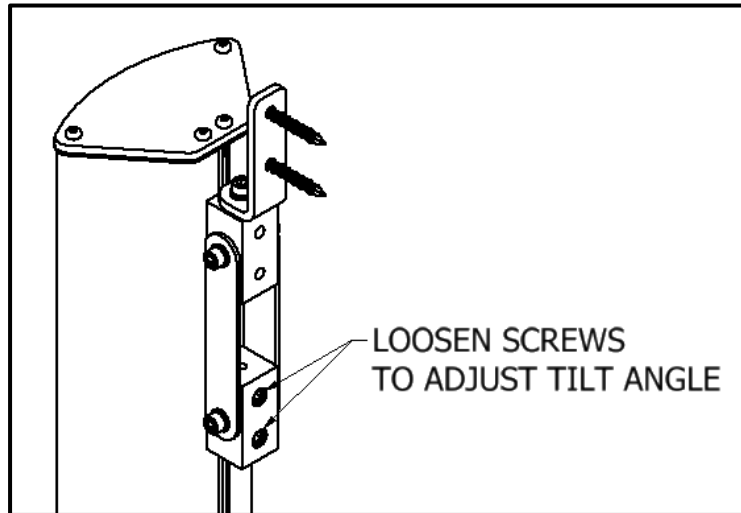

Figure 14. 90243A-803 and 90243A-804 Wall Mounting – Step 7
- To aim the speaker down, loosen (but don't remove) the two bolts fastening the top Pivot Nub to the LineWave. Slide the Pivot Nub up and down to adjust the tilt angle to the desired orientation as shown in Figure 14. The LineWave may need to be temporarily rotated left or right in order to access the screws.